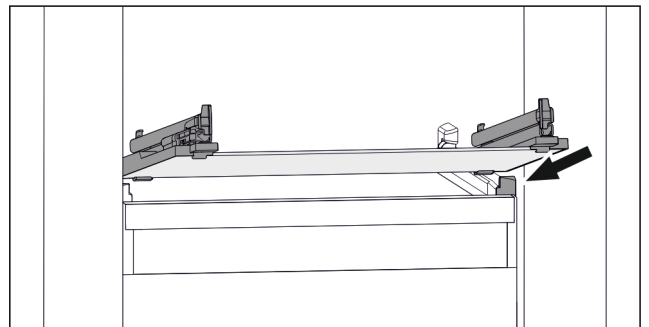

Fig. 138 Example illustration of glass shelf
- ▶ Position glass shelf at an angle behind the stoppers. (see Fig. 138)